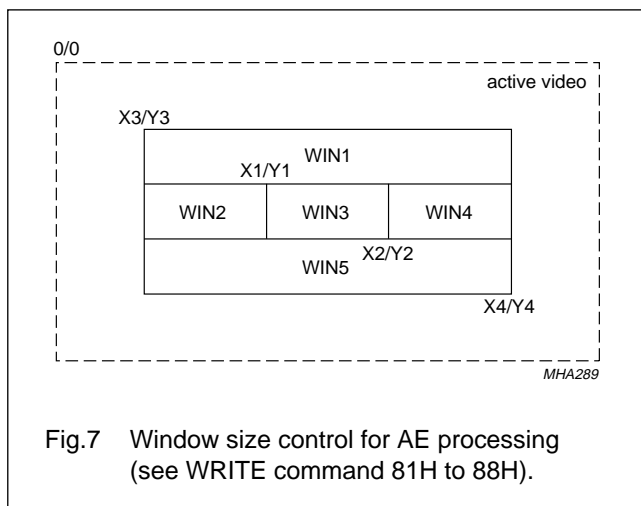

Fig.7 Window size control for AE processing (see WRITE command 81H to 88H).
2. For auto exposure processing different windows in the active video field are taken with different weighting factors. The coordinates of the five windows are set according to Fig.7. The resolution is 1 bit ≙ 16 pixel in x-direction and 1 bit ≙ 8 lines in y-direction.